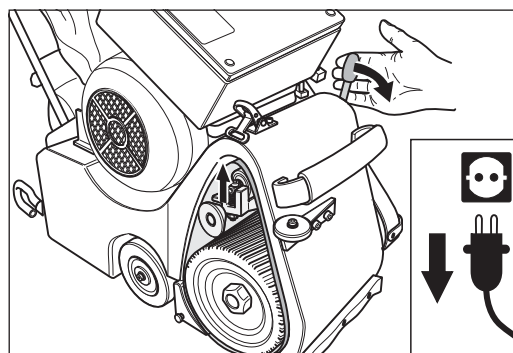

Fig. 17 Tension the sanding belt by lowering the operating lever. **Otherwise, damage or injury can occur!**
- 12 To tension the sanding belt, press the operating lever of the drive unit downwards (Fig. 17). **Otherwise, damage or injury can occur!**
- **Always** tension the sanding belt before switch on the machine (Fig. 17)!